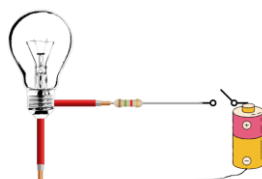

Fig. 2.8 Cell positive terminal is connected via a switch
Step 5 – Then, again cut and strip the required length of wire, then using this stripped wire connect another end of the resistor to the positive terminal of the battery via switch. Figure 2.8 illustrates the switch is connected between the circuits.